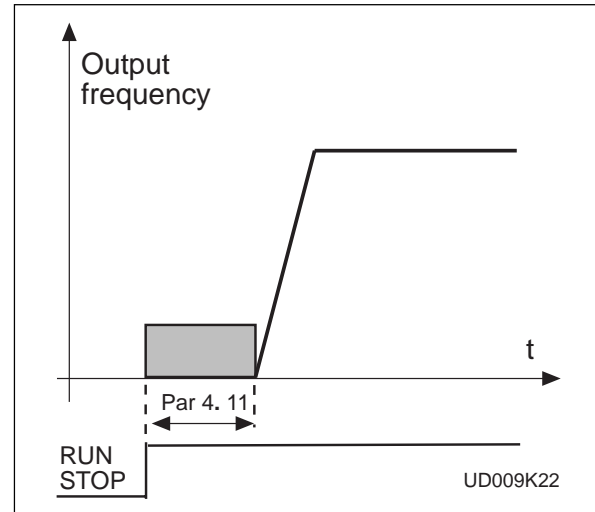

Figure 6-23 DC-braking at start
- >0** DC-brake is activated when the start command is given and this parameter defines the time before the brake is released. After the brake is released, the output frequency increases according to the set start function parameter 4. 6 and acceleration parameters (1. 3, 4. 1 or 4. 2, 4. 3), see figure 6-23.